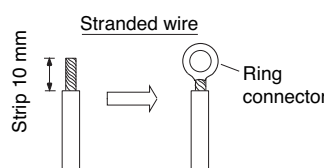

Fig. 24d
- (1) Cut the wire end with a cutting pliers, then strip the insulation to expose the stranded wiring about 10 mm and tightly twist the wire ends. (Figs. 24d and 24e)
- (2) Using a screwdriver, remove the terminal screw(s) on the terminal plate.
- (3) Using a ring connector fastener or pliers, securely clamp each stripped wire end with a ring connector. (Fig. 24d)